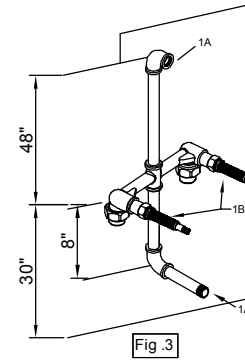

Fig. 3
- 3 Recommended component locations: (see Fig. 3)